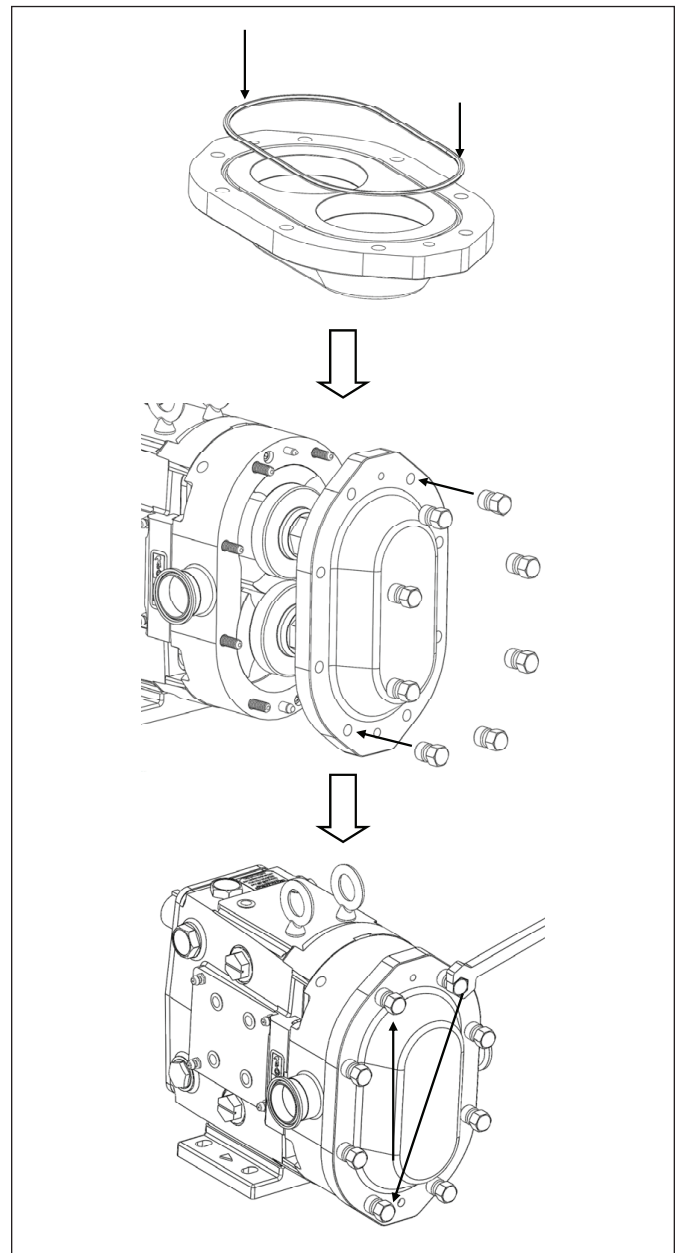

Figure 34. Cover Assembly
8. Install a new cover o-ring and slide the cover over the studs making sure that the dowels in the body are aligned with the correct dowel holes in the cover (*Figure 34*). Visually inspect to ensure that the cover o-ring remained in place. Turn the cover nuts (clockwise) by hand and fully tighten them using the appropriate wrench. Tighten the cover nuts in an opposing manner, as seen on *Figure 34*, so that the cover is evenly tightened to the body.